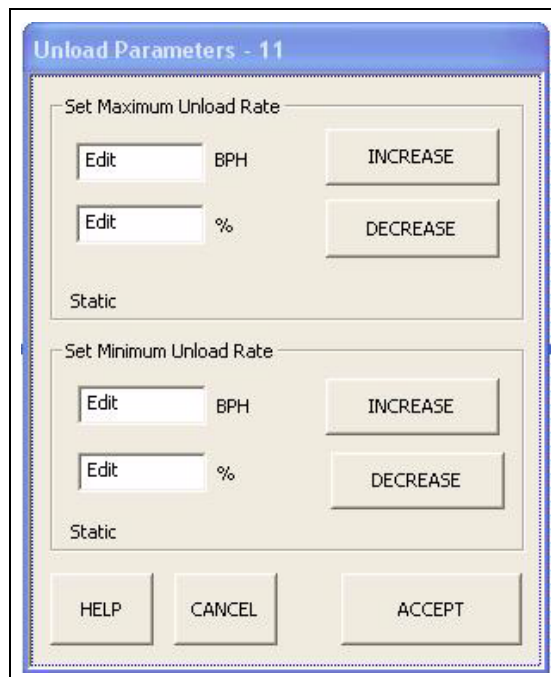

Figure 5I
- Set Minimum Unload Rate:** The meter roll speed setpoint cannot be set lower than this value. (See Figure 5I.)